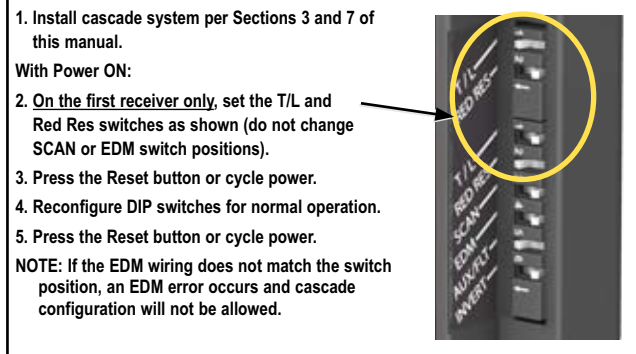

Figure 7-7. DIP switch configuration to enable cascade installation
- From either normal operation or a power OFF condition, set the *first* and *fourth* DIP switches (T/L and Red Res) both to the left (Trip operation and Reduced Resolution enabled positions). See Figure 7-7.